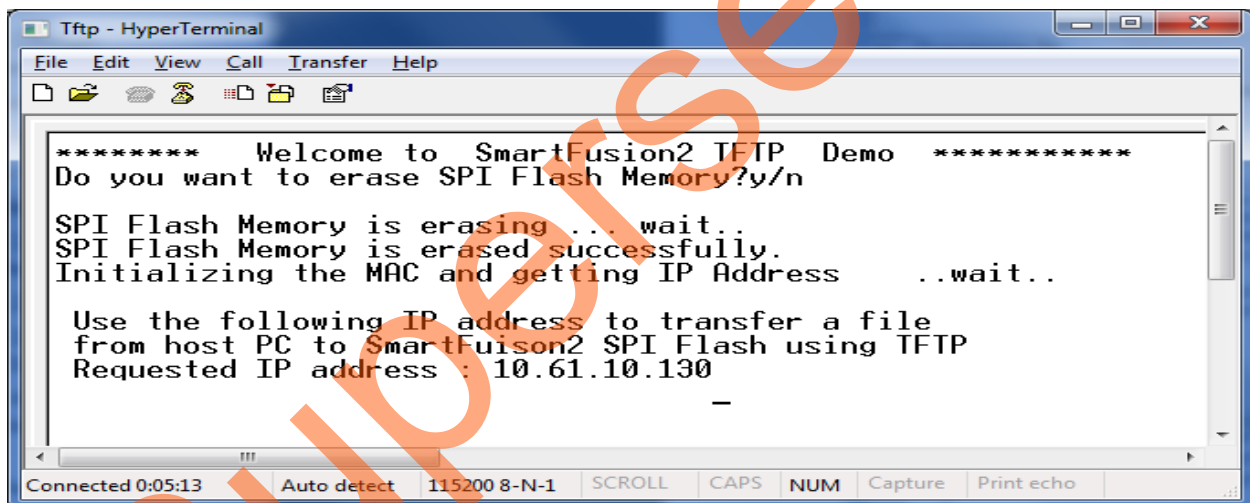
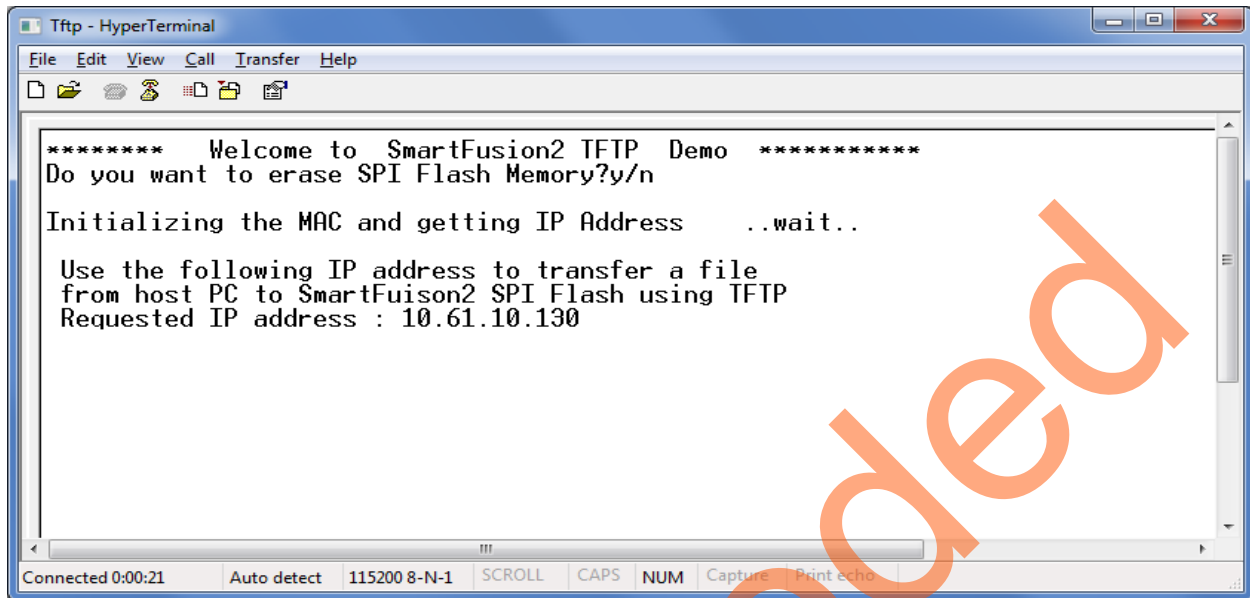

Figure 24 • HyperTerminal with IP Address - Erasing SPI Flash Memory
Figure 25 • HyperTerminal with IP Address
5. Type **y** to erase the SPI Flash memory contents, as shown in Figure 24.
6. Type any key other than **y** to skip SPI Flash erasing, as shown in Figure 25 on page 26.
The HyperTerminal program displays the dynamic IP address also, as shown in Figure 24 on page 25 or Figure 25.